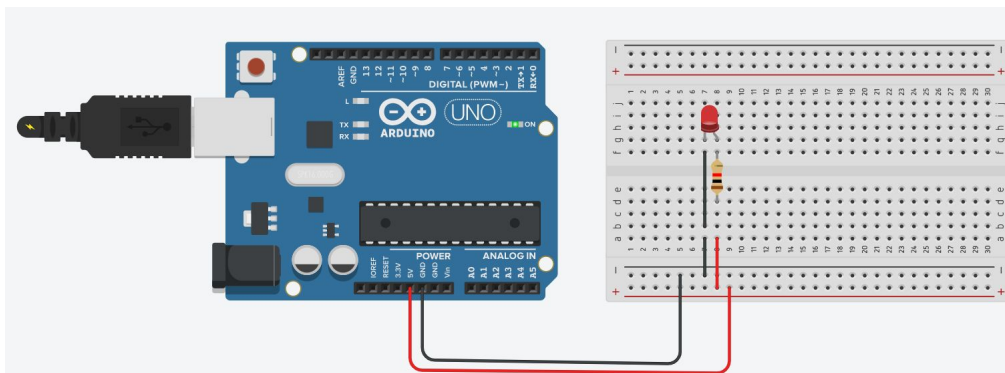

Figure 13.4: Adding a Resistor
- Place the resistor so one end connects to the Arduino pin, and the other end to the LED anode on the breadboard (Figure 13.4).